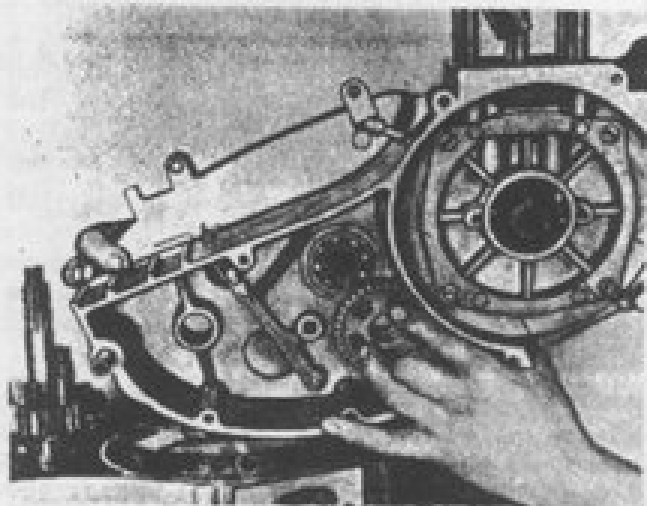

Fig. 30. Joining the crankcase halves, HJK-10-3 motorcycle.
12. Holding gear 33 of the I gear against a hole in the cavity of the crankcase left-hand half (ring groove should be directed to the crankcase wall), joint the crankcase halves matching hole axes with shaft axes and a key on the half axle with the flywheel key slot (Fig. 30).